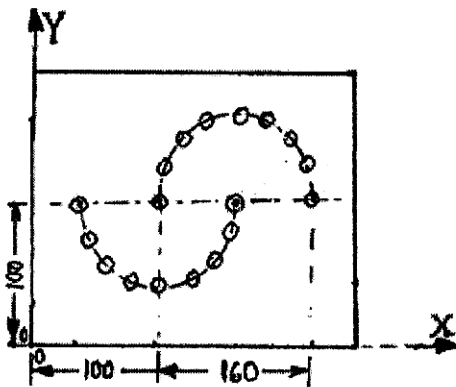

Fig. 7
7. Write an APT program for drilling holes (depth is 5 mm and dia. is 3 mm) in a job shown in fig.7 using a CNC drilling machine. 10